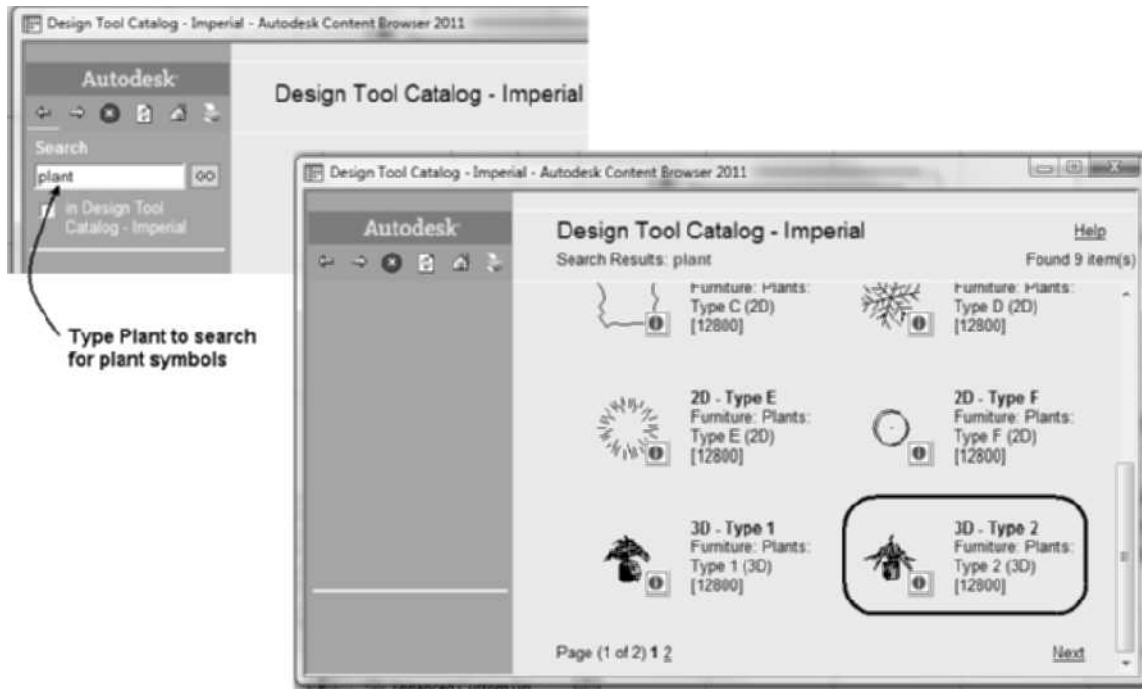

FIGURE 10.7 Search tool applied to located specific multi-view blocks
11. In this step you will search for a tool. Choose **Design Tool Catalog—Imperial** [**Design Tool Catalog—Metric**]. Type **Plant** in the Search field of the Design Tool Catalog—Imperial [Design Tool Catalog - Metric]. Click **Go** to view the results of the search as shown in Figure 10.7.